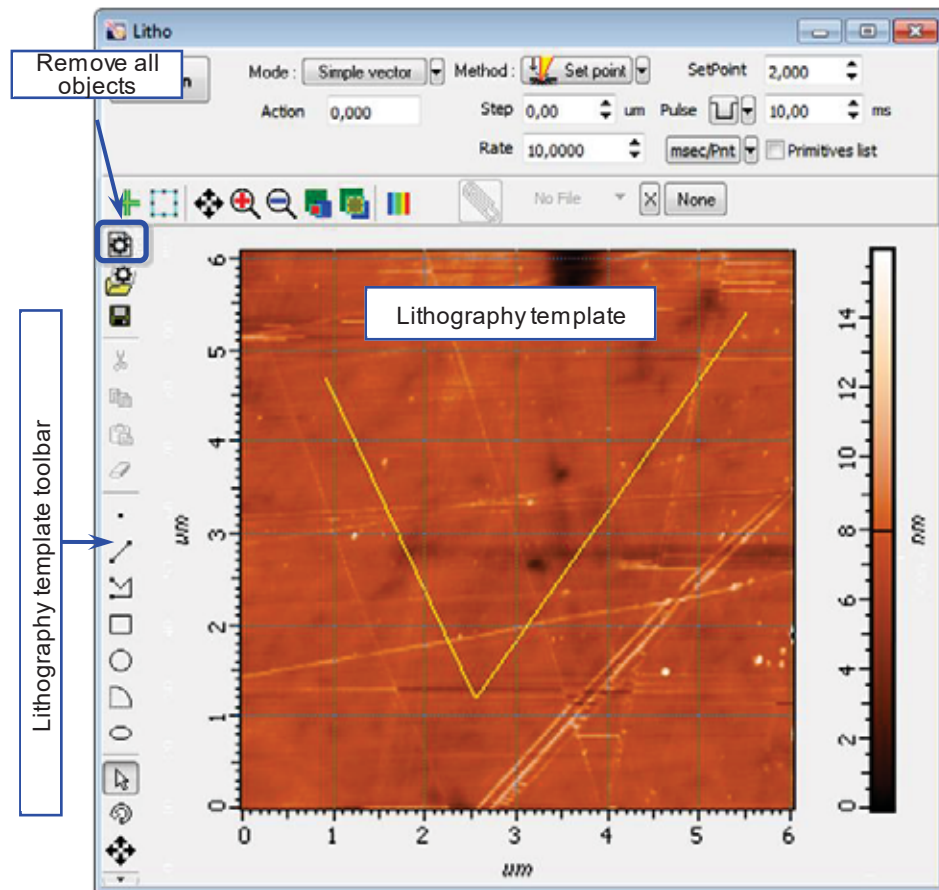

Fig. 13-17. An example of the template of vector lithography
1. Create a new lithography template. To this purpose, click the  button in the Toolbar of the Lithography template (Fig. 13-17). This will remove all objects created before. This step is required to prevent any object outside the selected region to appear in the final template.